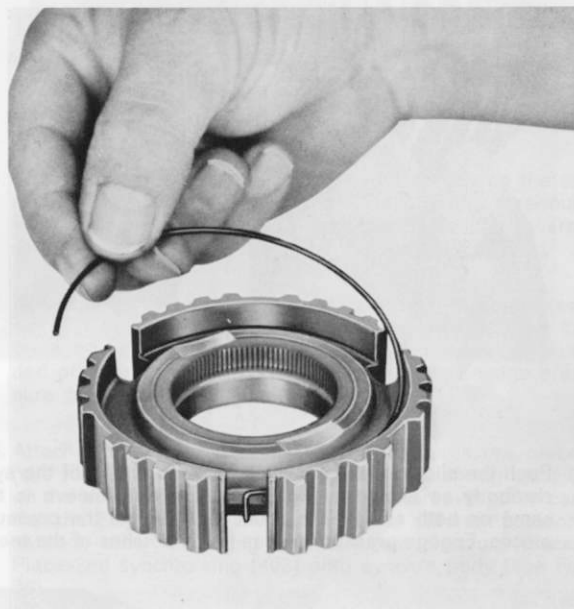
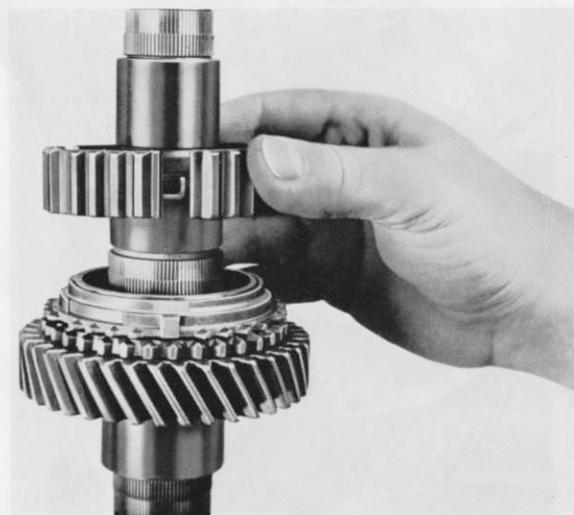

Fig. 26
Fig. 27
3. Place a synchro spring (403) onto the side of the 2nd and 3rd gear synchro body (414) which is first pushed onto the mainshaft i.e. on the side which has the splining and attach the squared off end into the cross slot (Fig. 26). Heat the preassembled 2nd and 3rd gear synchro body up to 80° C and with the splines lined up into the position marked during disassembly, press onto mainshaft (Fig. 27). Only assemble the synchrobody with tool .6. or with a suitable tube which fits over the hub. Make sure that the lugs of the synchro rings (402) lie in the recess of the synchrobody. Spring on the circlip (413); this must sit tightly in the radial groove and is therefore available in thicknesses of 1,8; 1,9 and 2,00 mm. Use tool .7. for tapping the circlip into position.
9. Place a synchro spring (403) onto the side of the synchrobody (405) with the longer hub and attach squared off end to the cross slot (see Fig. 26). Heat 4th and 5th gear synchrobody to 80°C and press it with the longer hub first onto mainshaft (Fig. 33). Use tool .6. and note the marked position when pressing on and insert the lugs of the synchro rings into the notches of the synchrobody. Select a circlip (401) thick enough to sit tightly in the radial groove. The ring is available in thicknesses of 1,8; 1,9 and 2,0. Attach circlip and with tool .7. push into groove.